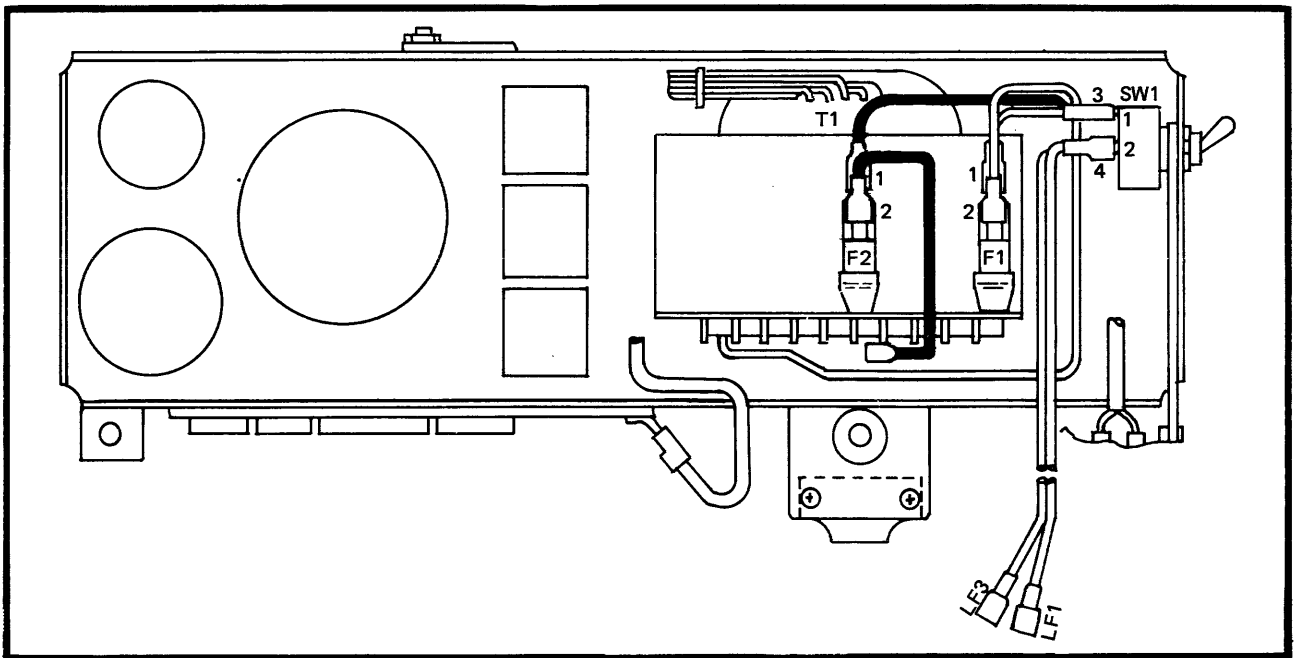

Figure 22. Wiring for 200V/220V/240V
Figure 22 shows the arrangement of taps for line voltages of 200V, 220V, and 240V. Rewire using Power Kit P/N 102421.
- Remove wire from power switch terminal SW1-3 (figure 22) and from transformer tap at other end of that wire. Remove wire from the Printer.